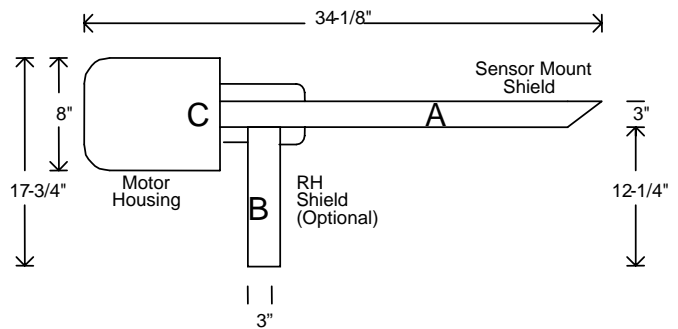

Figure 1
Temperature Sensors and RH/Temp Sensors 100093, 100093-2, 100093-3 and 100826 are mounted in the Sensor Mount Shield (Figure 1, Location A)
- **RH Probes** 101812 and 102273 are mounted in the optional shield. (Figure 1, Location B)
- **RH Sensors** 102425 & 100098 are mounted in the motor housing. (Figure 1, Location C)